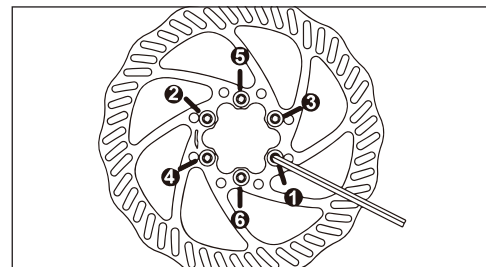

Fig 1
- To ensure a uniform distribution of load, follow the tightening sequence shown in figure 1. (Fig. 1)